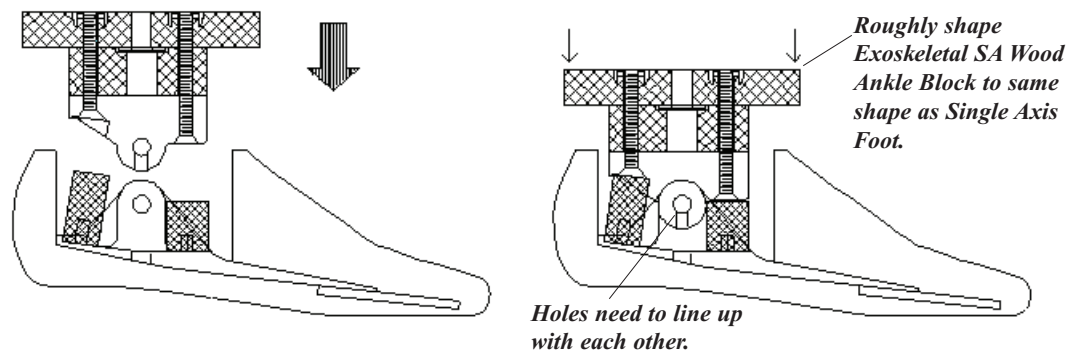

Figure 1 Assembly of Exoskeletal SA Wood Ankle Block and Exoskeletal SA Ankle to Single Axis Foot
3. Place the Exoskeletal SA Ankle, with the Exoskeletal SA Wood Ankle Block attached to it, on top of the foot and Deflection Bumpers so that the thicker end of the ankle is located anteriorly. Push the Exoskeletal SA Ankle down so that the hole in the Exoskeletal SA Ankle lines up with the holes in the sides of the foot (Figure 1).